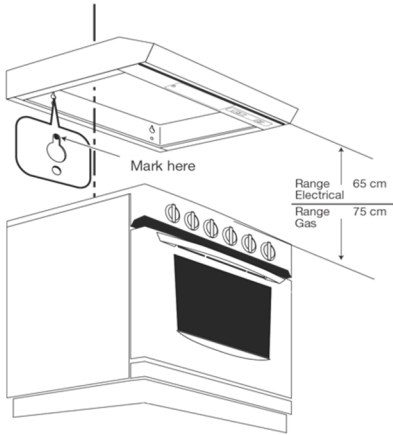

Figure 1
2. Place the hood on the wall and mark the points where the drill-holes are to be made with a pencil (Fig. 1).